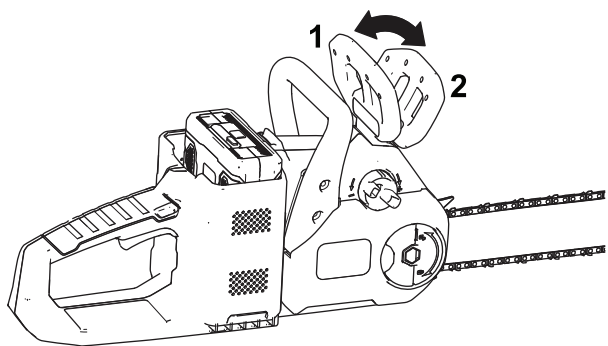

Figure 8
- Ensure that the chain brake is in the OPERATING position (Figure 8).
Whenever you are not using the saw or are transporting the saw to or from the work area, move the chain brake to the STOP position (Figure 8).